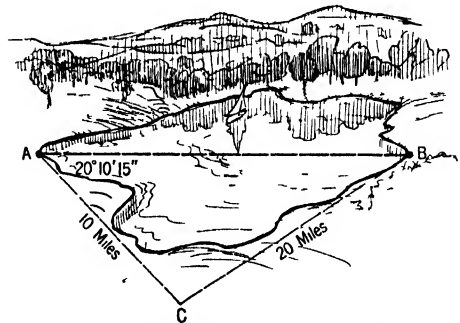

FIG. 260. POINTS A AND B ON OPPOSITE SIDES OF A LAKE
Points A and B are on opposite sides of a lake as shown in Fig. 260. An observer at the position C
25. Points A and B are on opposite sides of a lake as shown in Fig. 260. The point C , however, is 4.6 miles from A and 6.9 miles from B . The angle CAB is $18^{\circ} 10' 40''$. Find the distance from A to B . *Ans.* 11.1 miles.